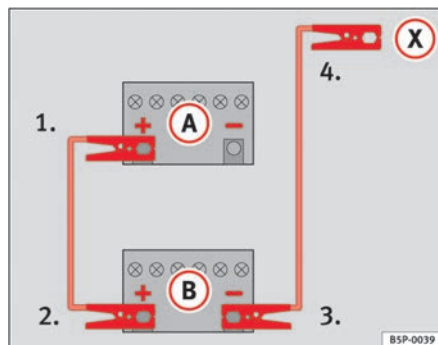

Fig. 204 How to connect the jump leads
In ⇒ fig. 204, the flat battery is (A) and the charged battery (B).
- 1. Connect one end of the red jump lead to the positive ⇒ fig. 204 (+) terminal of the vehicle with the flat battery ⇒ ⚠.
- 4. Connect the other end of the black jump lead (X) to a solid metal component which is bolted on to the engine block, or onto the engine block itself of the vehicle with the flat battery. Do not connect it to a point near the battery ⇒ ⚠.